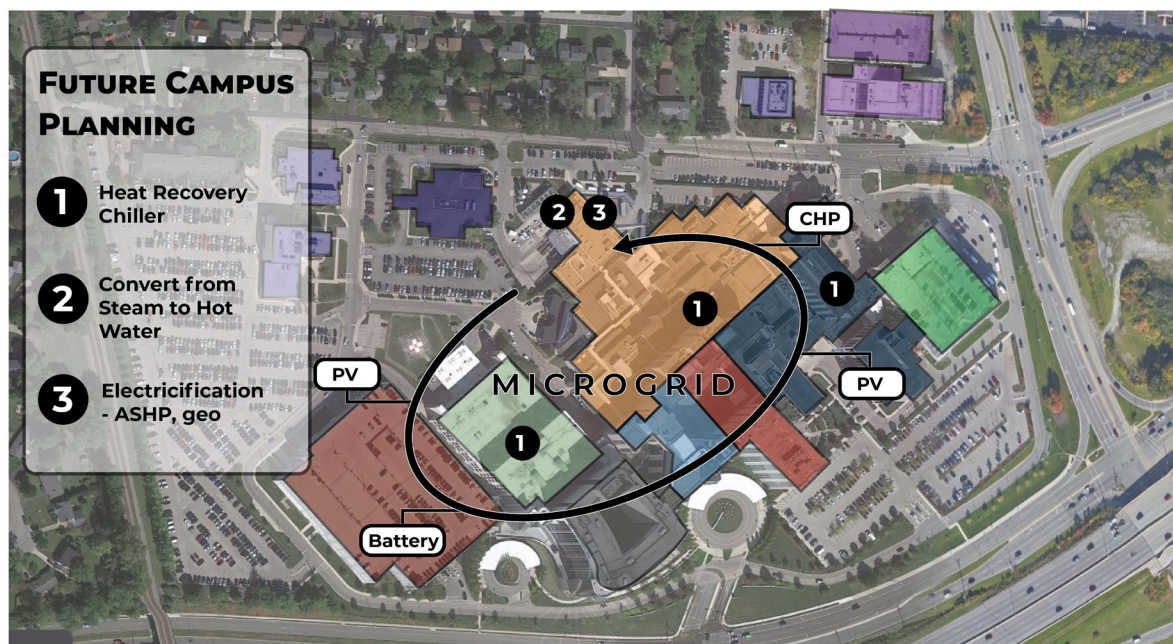

Figure 15
Step 2: Future campus planning (Figure 15)